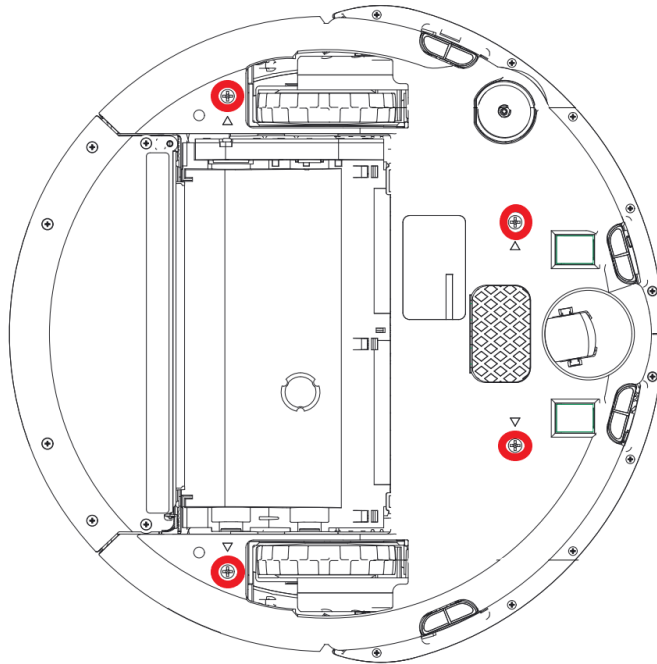

Figure 7: *iRobot Create* bottom
If the command doesn't work, you need to pull out the battery in the following steps: (1) Release the Raspberry Pi components from the robot using the velcro connections and the associated cables. (2) Turn the robot upside-down. (3) Remove the four screws circled in fig 7. The screwdrivers will be above the whiteboard in the Lab room. (4) Open the lid and pull out the battery carefully. (5) Finally, put the battery back and make sure the screws and the lid are secure. (6) Inform the lab assistant that you had to perform an emergency power off.